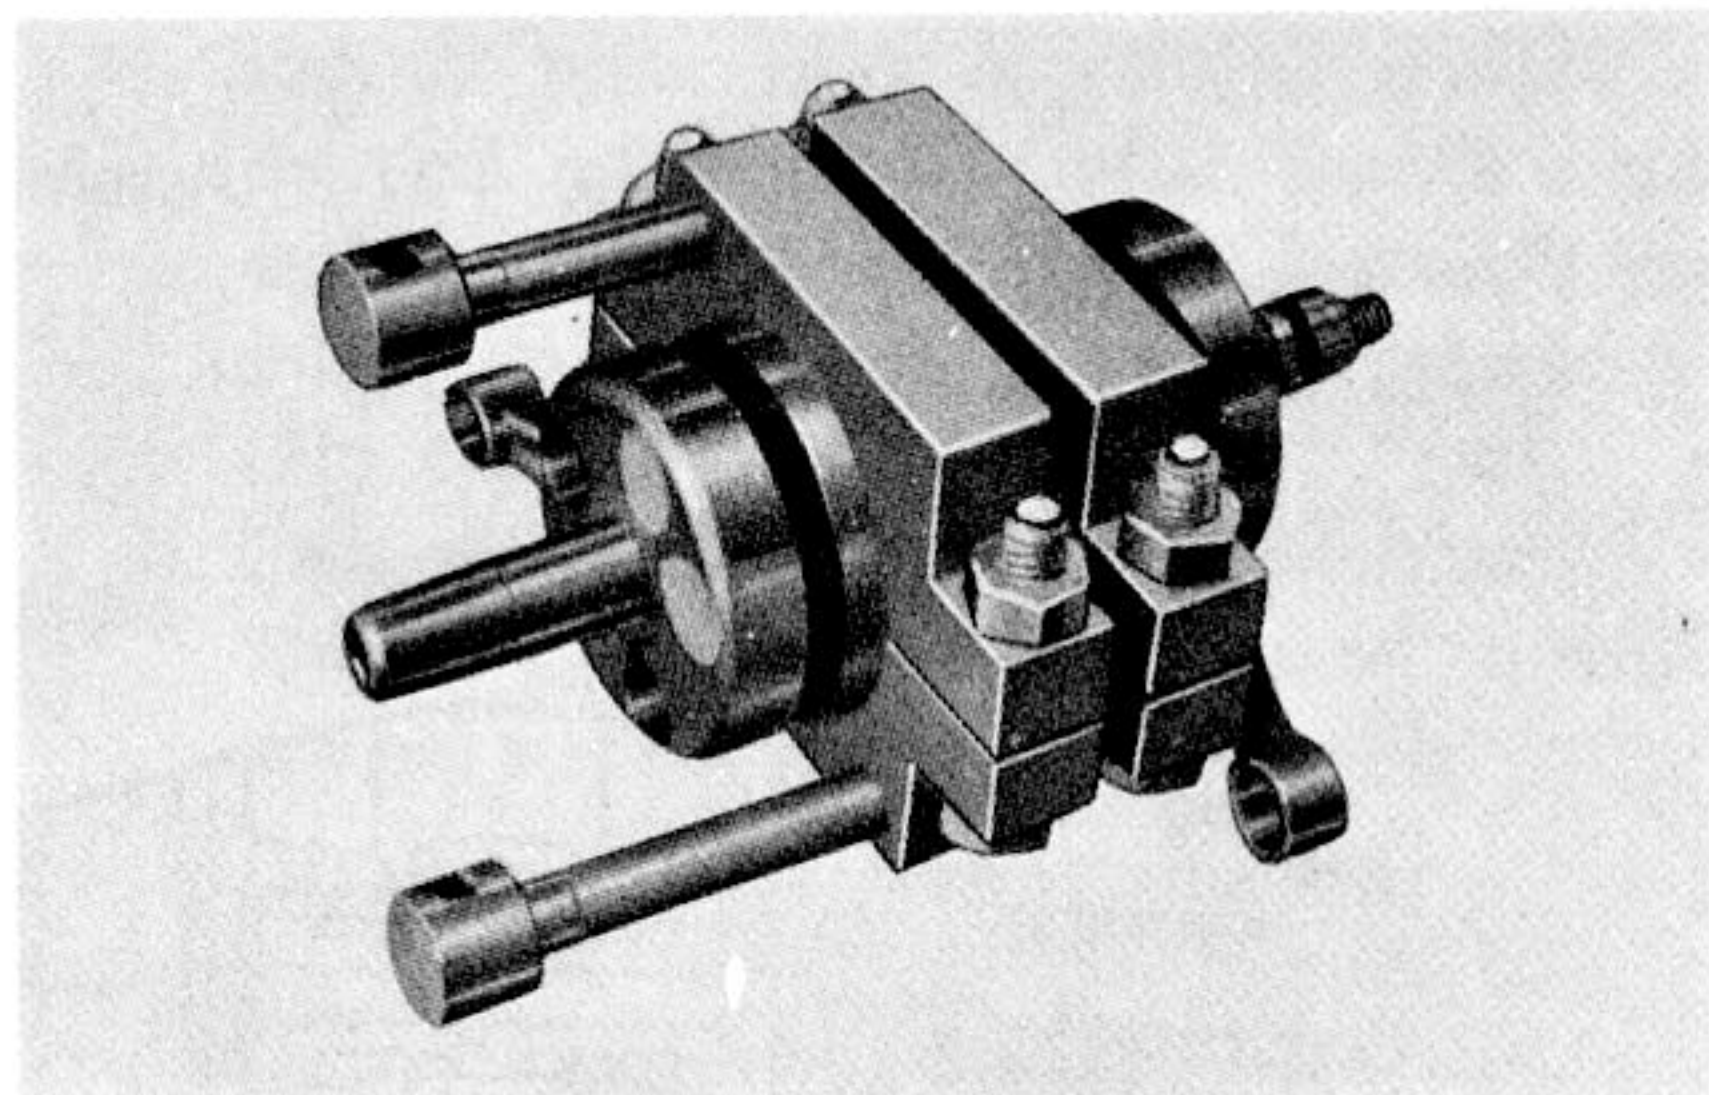

Fig. 4-17-7
- (3) Fig. 4-17-7 shows the tools installed on the crankshaft ass'y.